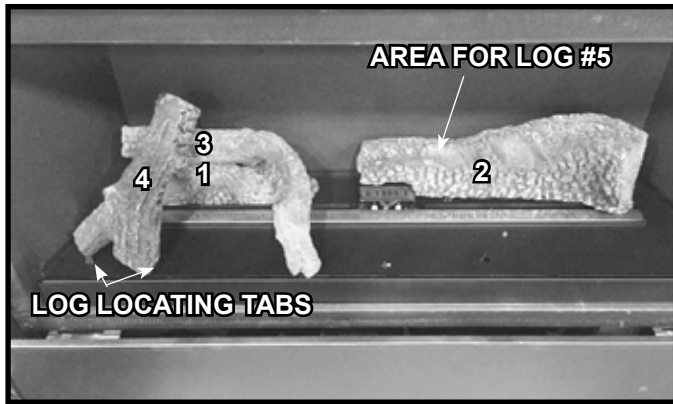
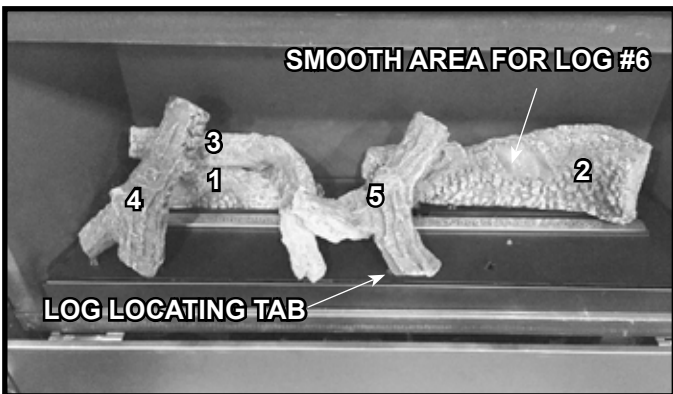

Figure 7 Place Log #4
Figure 8 Place Log #5
- Install Log #4 by placing the forked end down onto the base pan and leaning the top end of Log #4 back so that it is resting on Log #3. The forked end should contact two placement tabs. See Figure 7.
- Install Log #5 by placing the forked end down as shown in Figure 8. One side of the fork will rest on Log #3 and the other side of the fork will touch the designated log placement tab. The other end of the log rests on the smooth area on Log #2 noted in Figure 7. See Figure 8.
- Install Log #6 by placing the right end of the log against the right log tab. The left end of the log will contact the back side of the tab. Log will lay on smooth area of Log #2. See Figure 8.